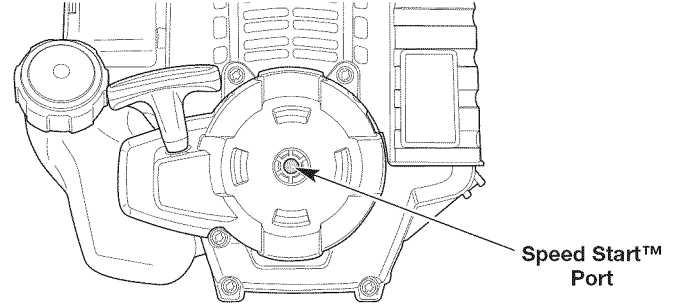

Fig. 9
5. Insert the Speed Start™ accessory into the Speed Start™ port (Fig. 9). Refer to the *Operation* section of the Speed Start™ accessory operator's manual.